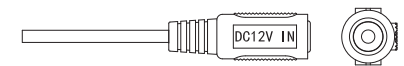

Figure 2-9
- Please refer to Figure 2-9 for DC 12V power input port.